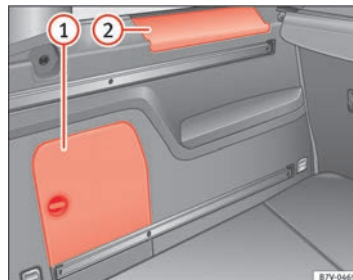

Fig. 115 In the luggage compartment: Side storage compartment
There are other compartments ⇒ Fig. 115 ① and ② in the side of the luggage compartment. To open the compartment ①, turn the catch clockwise. To open the compartment ②, lift the cover. The factory-fitted **CD changer** ▶